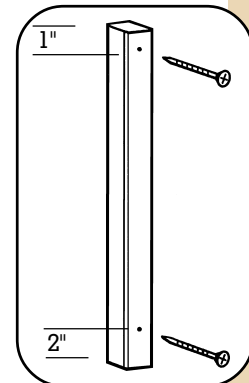

Fig. 41
- Mark on center 1" from the top and 2" from the bottom of each TimberTech Baluster for screw placement. **The screws *must* be installed 1" from the top and 2" from the bottom of each Baluster to ensure proper placement into the top and bottom Side Rail** (Fig. 41).